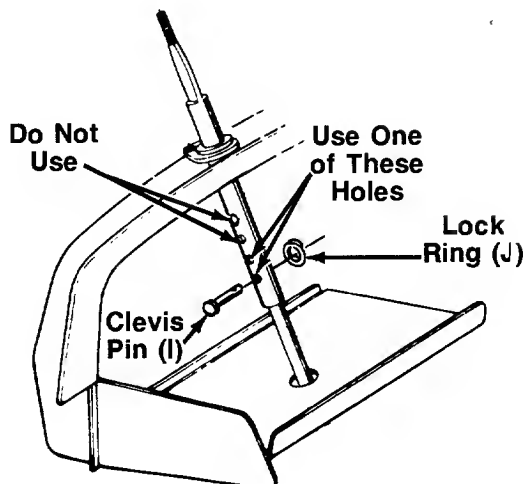

FIGURE 2.—Models 704 and 714 Shown
1. For shipping purposes, the upper steering shaft is pushed all the way down over the lower steering shaft. Pull the upper steering shaft up. The holes in the shaft provide steering wheel height adjustment. When securing the two halves of the steering shaft, select one of the two lower holes in the upper shaft as shown. **Do not** use the two upper holes. Secure with clevis pin (I) and lock ring (K). See figure 2.